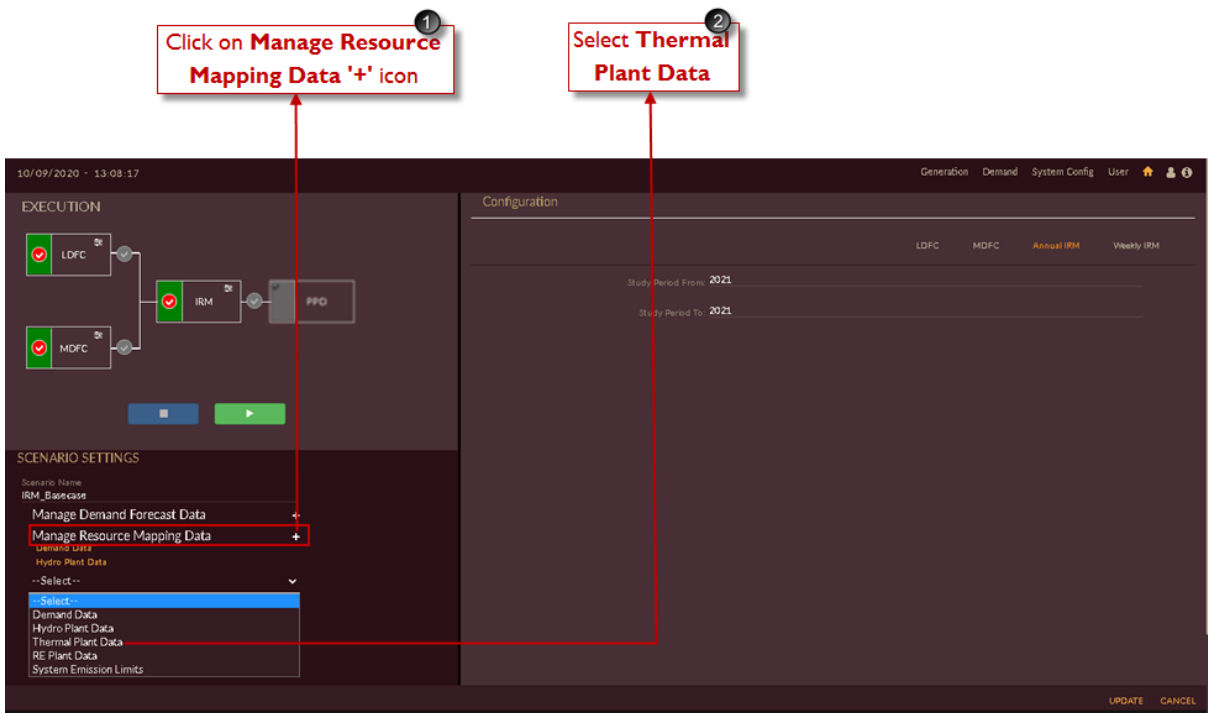

Figure 209. Manage Thermal Plant Data
2. Select **Thermal Plant Data** from the drop-down list as shown in Figure 209.